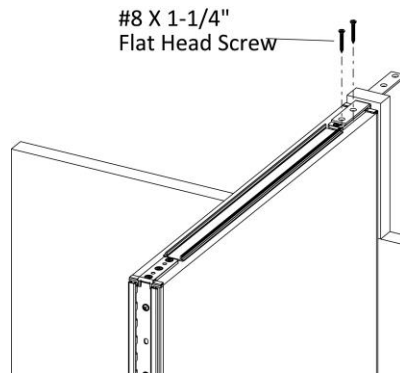

Figure 3
6. Drive two #8 X 1-1/4" Flat Head Screws through the holes in the gallery panel top bracket into the standard panel, (Figure 3).